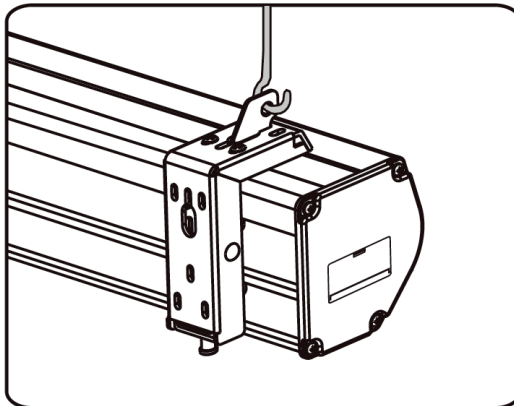

Fig. 18
- After completing steps 2 and 3, check that the wall bracket is securely attached to the screen housing before hanging the screen. Hang the screen on the hooks as shown in figure 18.